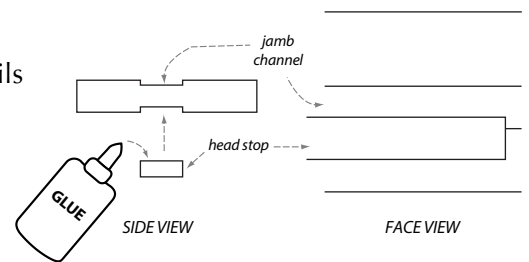

Figure 7
- b. Using a high quality wood glue, apply small amount to head stop, insert in groove and hold with blue tape until dry (figure 7 and 8). Wipe any excess glue off immediately with wet cloth.